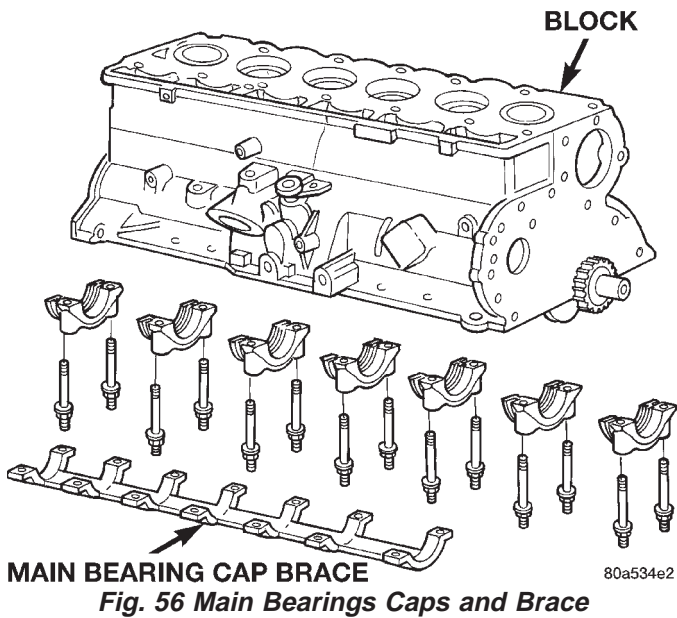

Fig. 56 Main Bearings Caps and Brace
(1) Remove the engine cylinder head cover.
(2) Remove the rocker arms, bridges and pivots.
(3) Remove the push rods.
(4) Remove the engine cylinder head.
(5) Position the pistons one at a time near the bottom of the stroke. Use a ridge reamer to remove the ridge from the top end of the cylinder walls. Use a protective cloth to collect the cuttings.
(6) Raise the vehicle.
(7) Drain the engine oil.
(8) Remove the oil pan and gasket.
(9) Remove main bearing cap brace (Fig. 56).
(11) Install main bearing cap brace (Fig. 56). Tighten nuts to 47 N·m (35 ft. lbs.).
(12) Install the oil pan and gaskets as outlined in the installation procedure.
(13) Lower the vehicle.
(14) Install the engine cylinder head, push rods, rocker arms, bridges, pivots and engine cylinder head cover.
(15) Fill the crankcase with engine oil.